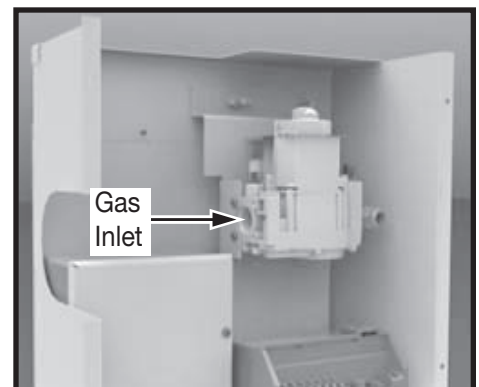

Figure 26: Gas inlet on gas valve.
6. Connect the gas supply to the gas inlet (Figure 26).
1. Connect the gas supply to the gas valve (Figure 26).